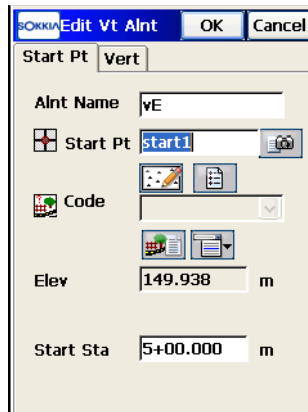

Figure 7-15. Add Vertical Alignment – Start Pt Tab
4. On the *Start Pt* tab of the *Edit Vt Alnt* screen (Figure 7-15 on page 7-14), enter the name of the vertical alignment and parameters of the starting point and station. (For the *Long Section* vertical alignment type, only the vertical alignment name is needed).
- To add a long section, tap the **Insert** or **Add** floating menu on the *Vertical* tab of the *Edit Vt Ant* screen (Figure 7-15 on page 7-14). The *Long Section* screen displays.
3. Tap **OK** to save the element to the road and to return to the *Add Vertical Alignment* screen (Figure 7-15 on page 7-14).